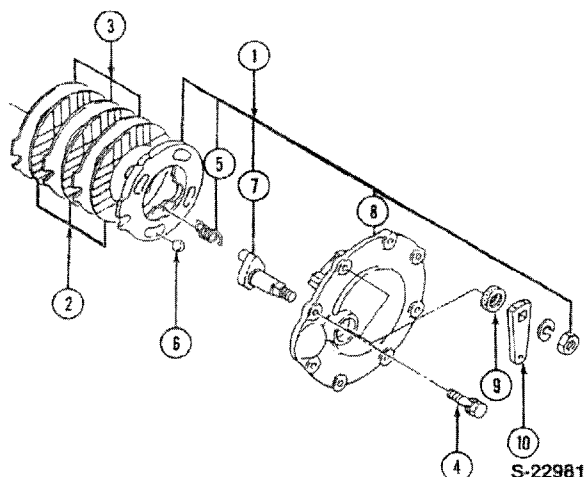

Figure 26
2. Remove the brake cover bolts, Figure 26.
Remove the cover assembly, discs and stators, Figure 26.
1. Remove the spring (5), Figure 26.
2. Take out the brake cover plate (8) and steel balls (6).
3. Remove the nut and lever (10), Figure 26.
4. Pull out the brake actuating cam (7) and oil seal (9), Figure 26.